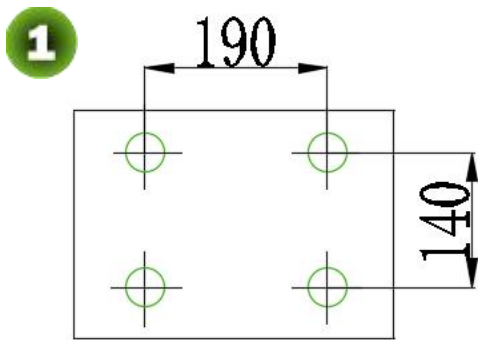

Figure 2-3A
- 1) Use Bolt Holes Dimensioning to mark the installation position of the cabinet, as shown in Figure 2-3A.